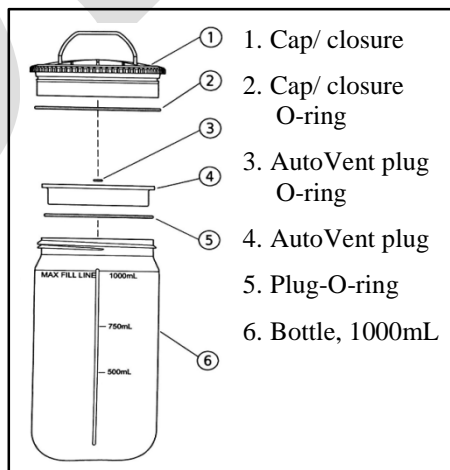

Fig.3 1000-mL bottle assemblies used in JLA-8.1
- **For JLA-8.1:** Before each use, inspect the canister, adapter (if needed), each bottle, cap/ closure, and plug (fig.3) for cracks or damage. Do not use damaged components.
- **For JLA-8.1:** Make sure that the plug and cap/closure O-rings (fig.3) are in good condition, are properly installed, and are completely dry and unlubricated.